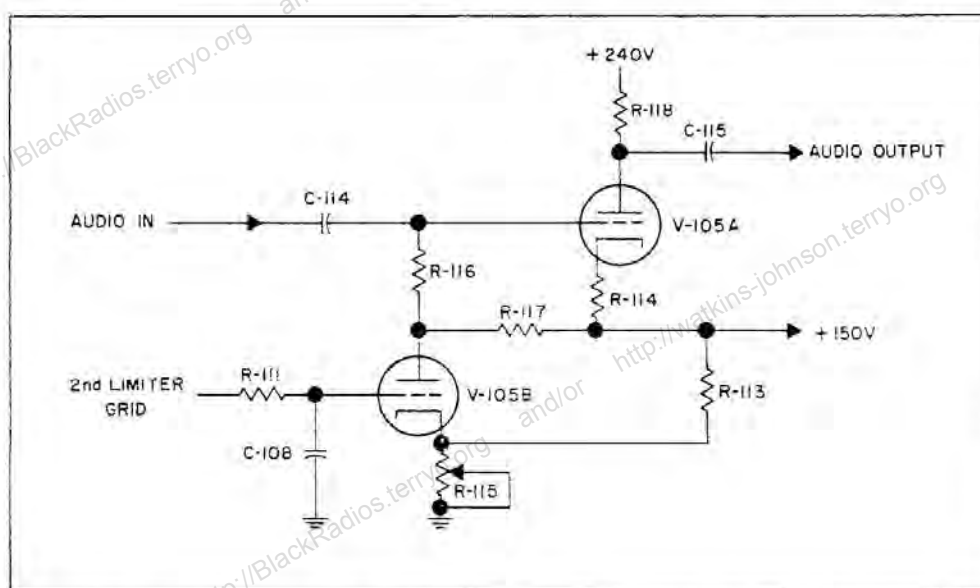

Fig. 2-2. Model 1301-A - 1302-A Receiver Squelch Circuit, Simplified Schematic.
f. THE SQUELCH CIRCUIT.- The squelch circuit is best described with the aid of the simplified schematic of Fig. 2-2. V-105A acts as a gated audio amplifier stage, while V-105B serves as a d-c amplifier and gate generator. The circuit is connected in such a manner that V-105B has zero grid voltage when no signal is being received and has a negative signal applied when a carrier is being received. The audio amplifier stage, V-105A, will pass an audio signal when the d-c amplifier, V-105B, is nonconducting, and will not pass an audio signal when V-105B, is in a conducting condition. In this manner the audio circuit is disabled when no carrier is being received. The carrier strength necessary to make the audio section operative is adjusted by the threshold (squelch) control R-115. The operation of this circuit is detailed in the following paragraph.